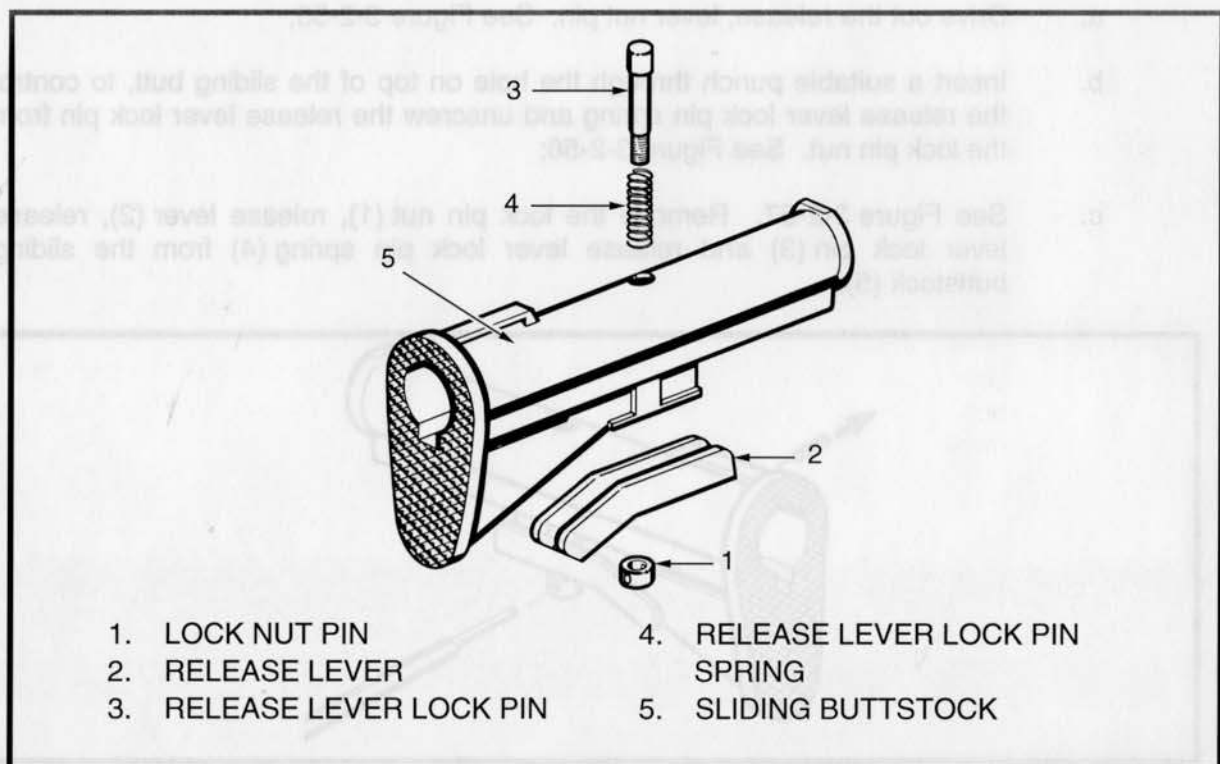

Figure 3-2-57 Disassembling the Sliding Butt Assembly
- c. See Figure 3-2-57. Remove the lock pin nut (1), release lever (2), release lever lock pin (3) and release lever lock pin spring (4) from the sliding buttstock (5).